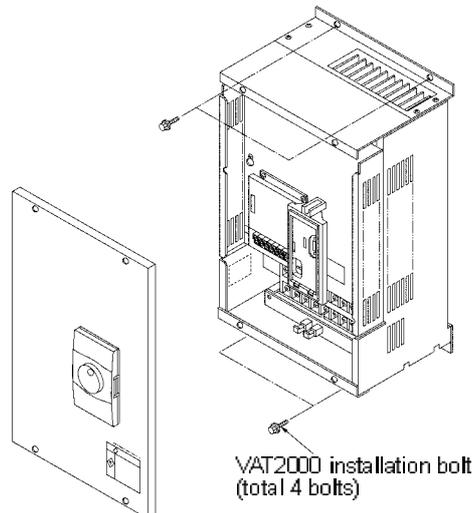

Fig 2.3
(2) N18K5, X22K0 and larger (Fig. 2.3)